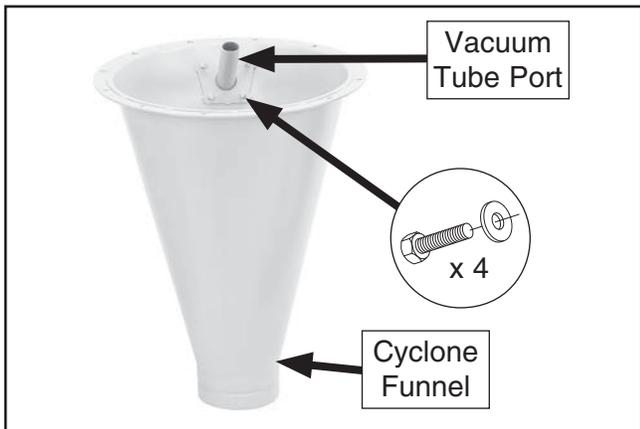

Figure 7. Cyclone funnel vacuum tube port installed.
8. Attach vacuum tube port to cyclone funnel with (4) $\frac{5}{16}$ "-18 x $\frac{3}{4}$ " hex bolts and $\frac{5}{16}$ " flat washers (see **Figure 7**).